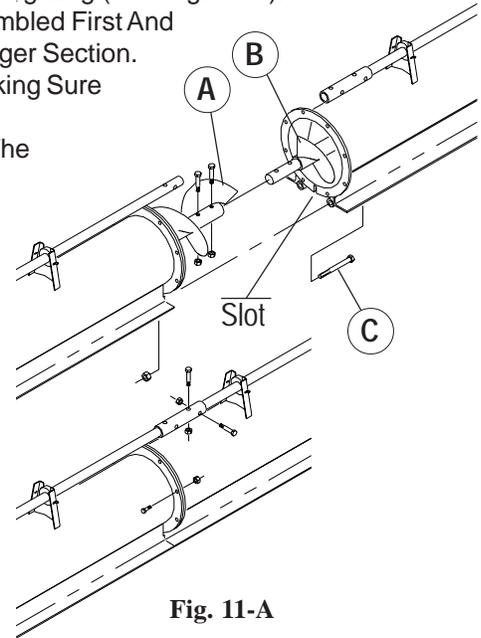

Fig. 11-A
Note: The Lower Section Of Flight Wraps Around Behind The Upper Flighting (See Fig. 11-A). For Augers That Use Three Sections, The Bottom Two Sections Are Assembled First And Then Those Two Flighting Sections Are Pulled Out To Join The Top Auger Section. After The Flighting Sections Are Joined, Slide The Tubes Together, Making Sure The Slot Located At The Bottom Of The Flange Rings Are Aligned. Bolt The Flanges Together With 3/8" X 1" Bolts And Locknuts On The Flange Connection And (2) 1/2" X 4-1/2" Bolts And Lock Nuts For The Track Joint "C". The "800" Auger Requires (8) Bolts Per Flange Joint, And The "600" Auger Requires (6) Bolts Per Flange Joint.